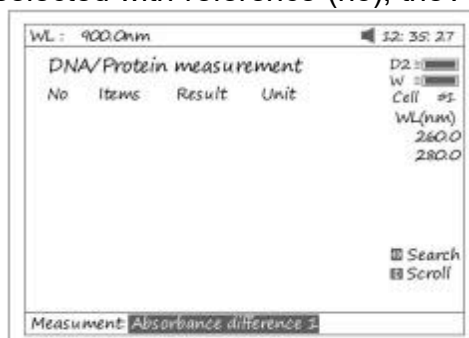
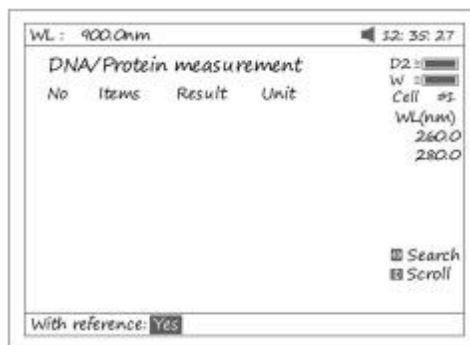

Fig 62
Fig 63
2. Press **【 F2 】** to select test mode. "Absorbance difference 1" is for testing at the wavelength 260nm, 280nm and 320nm (optional), and the "Absorbance difference 2" is for testing at the wavelength 260nm, 280nm and 320nm (optional, Fig 62). Then select with/without reference. If selected with reference (no), the A ref. will be "0" (Fig 63).